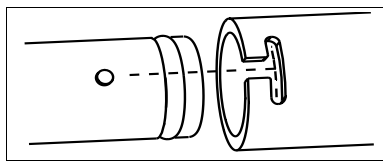

Fig. 6
23. Press distal hub of catheter contamination shield over assembly cap. Twist to lock (refer to Fig. 6).